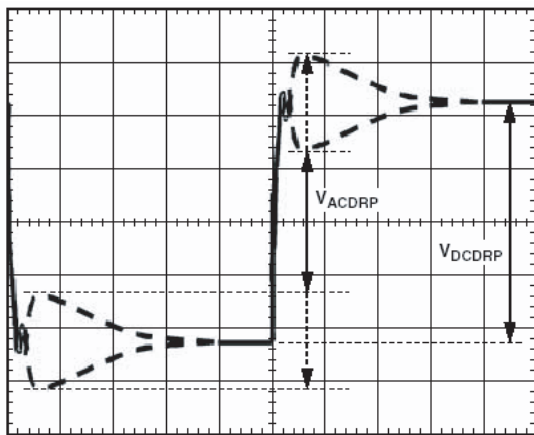

Figure 8. AC Loadline Waveform
15. You will see a waveform that looks something like Figure 8. Use the horizontal cursors to measure VACDRP and VDCDRP as shown.